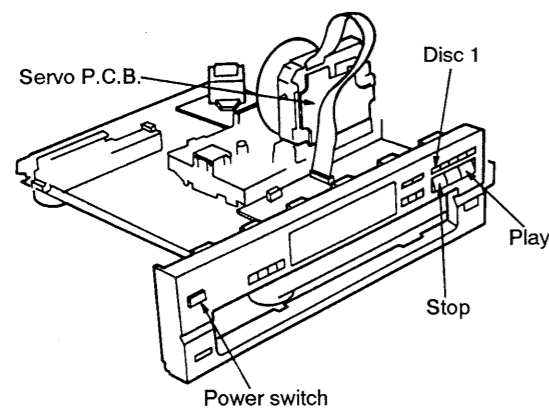

Fig. 9
6. When checking the soldered surface of the servo P.C.B., do as shown in Fig. 9.